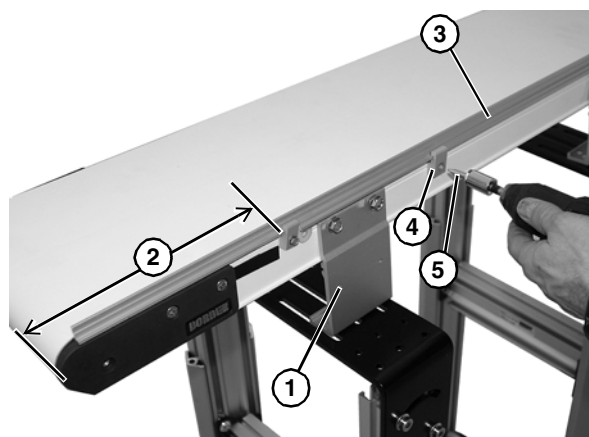

Figure 22
- Lay out retaining clip (**Figure 22, item 1**) locations. The end clips should be no greater than 12" (**Figure 22, item 2**) from end of the conveyor.
- Hold guide (**Figure 22, item 3**) and retaining clips (**Figure 22, item 4**) to conveyor side rail. Install self-drilling screws (**Figure 22, item 5**) following the "Proper Methods of Attachment to Side Rails (2300 Series Only)" on page 16 procedure.